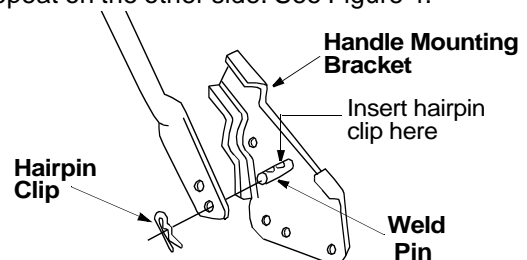
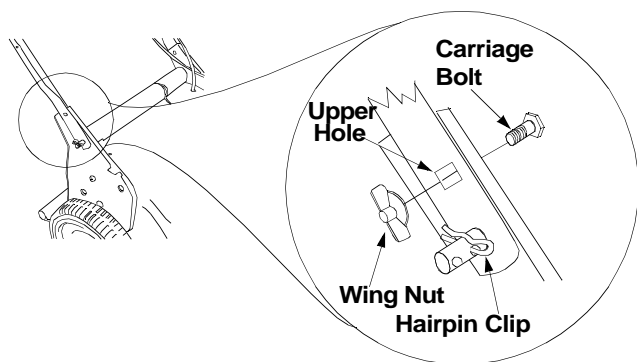

Figure 4
Figure 7
- Remove the hairpin clips from the outer hole in the weld pins on the handle mounting brackets. Using a pair of pliers, squeeze one leg of the lower handle against the handle mounting bracket. Insert the hairpin clip into the inner hole on the weld pin. Repeat on the other side. See Figure 4.
- After you have moved the hairpin clips as shown in Figure 4, place one carriage bolt (found in the hardware pack included with your unit) in the upper hole of the right handle mounting bracket from the inside outward. See Figure 7. Secure with one plastic wing nut. Repeat process on the left side